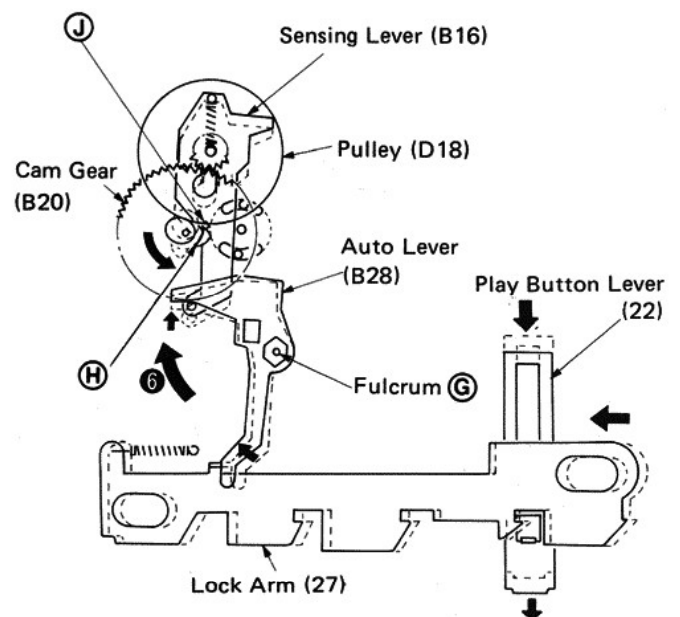

Fig. 18
- 2 When the cam gear (B20) revolves, Part (H) pushes up Part (J) of the sensing lever (B16) and the auto lever (B28) revolves around the fulcrum (G) in direction ⑥. Accordingly the lock arm (27) slides to the left and the play button lever (22) is released to assume the STOP mode. (Fig. 18)